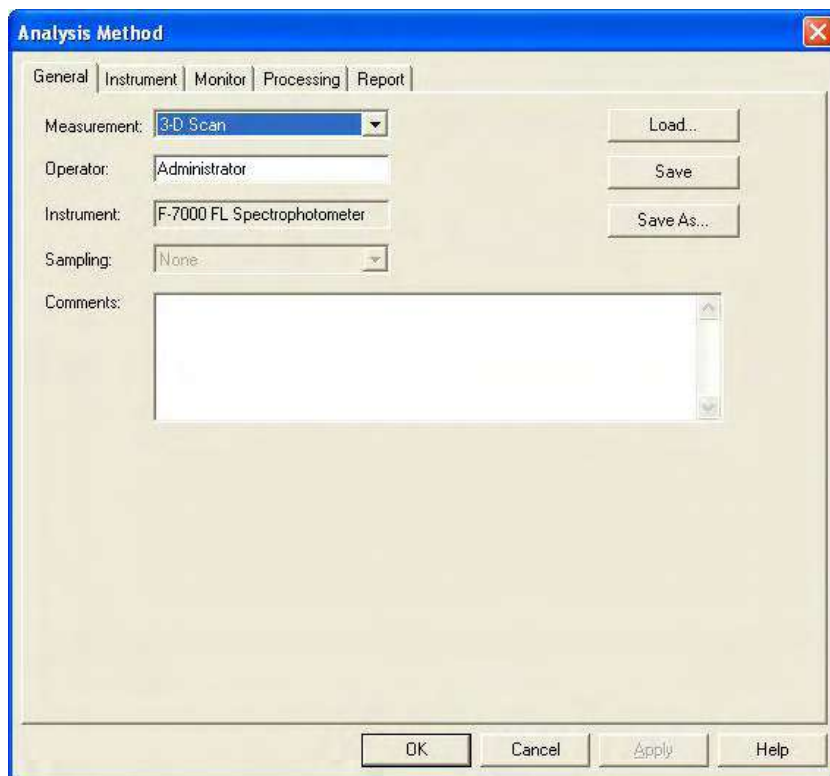

Fig. 5-2 Analysis Method
- (1) Click the  button on the Measurement toolbar. The window in Fig. 5-2 appears.